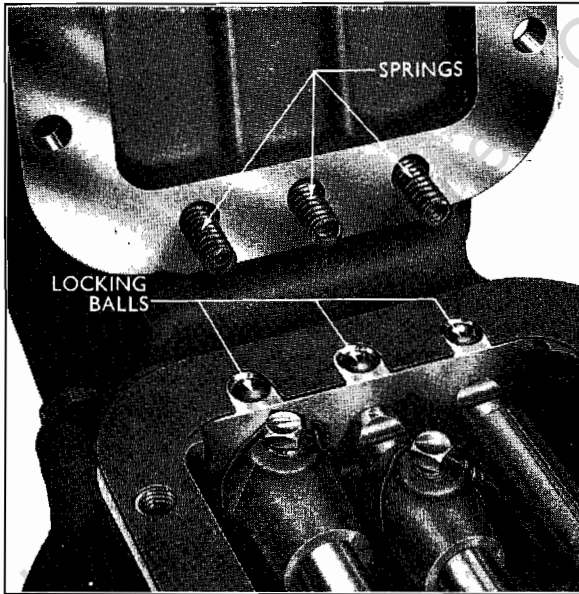

Fig. 6
**4. Remove the gearbox top cover plate.** Unscrew the four bolts and lockwashers securing the cover plate to the gearbox and lift off the cover plate (see Fig. 6).